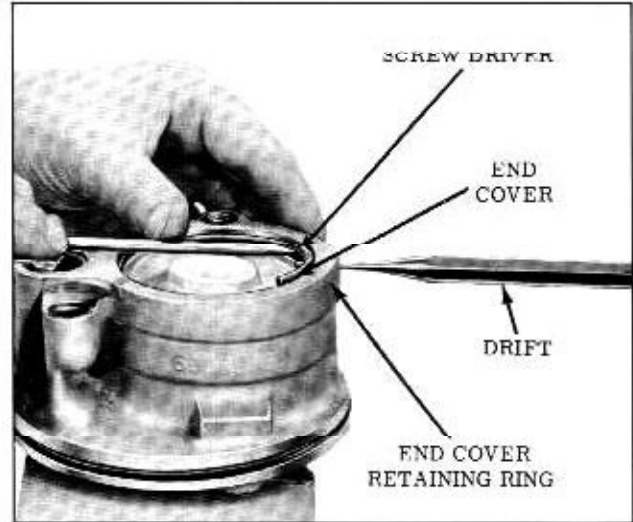

Fig. 4-51 Removing Cover Retainer
5. Rotate retainer ring so that one end is over hole in side of housing. Remove end cover retaining ring using 1/8 diameter hole in pump housing. When ring is in depressed position, remove as shown with screw driver. (Fig. 4-51)